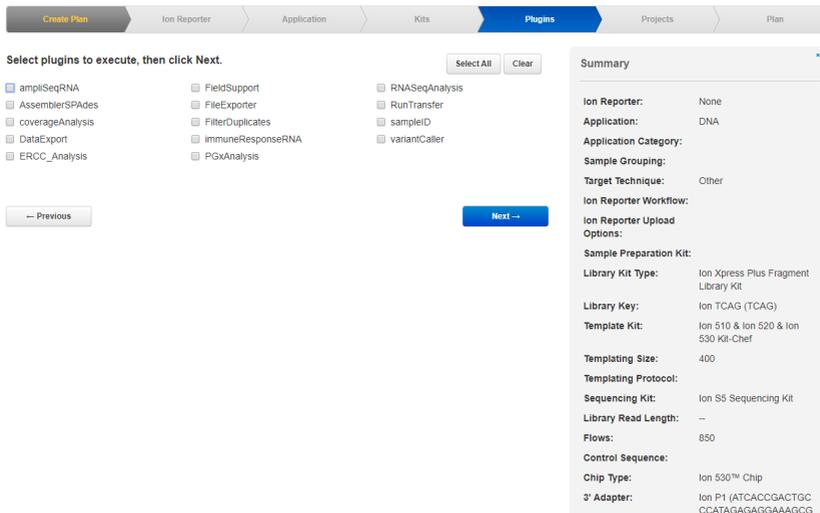

Figure 13. Plugins Tab with every option unselected.
7. Under **Plugins** tab (Figure 13), leave everything unselected.